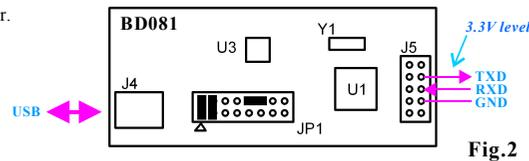

Fig.2
2. Use as USB-UART Converter [Fig.2]